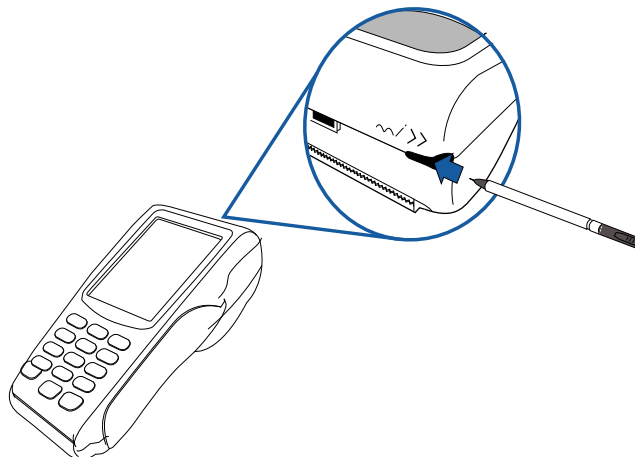

Figure 37 Removing the Stylus
- 1 Remove the stylus from the top portion of the terminal, as shown in Figure 37.